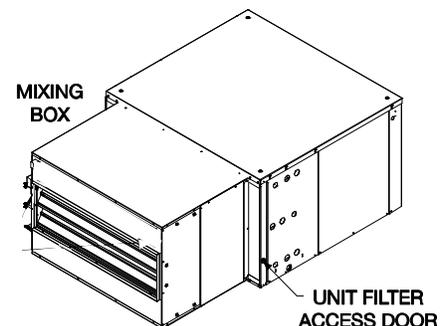

Fig. 17 — Installing Mixing Box
3. The mixing box should now hang freely from the unit (Figure 17). For HB sizes 30 and above, support back edge of mixing box using Unistrut. Insure that the support strut does not interfere with the damper linkages.